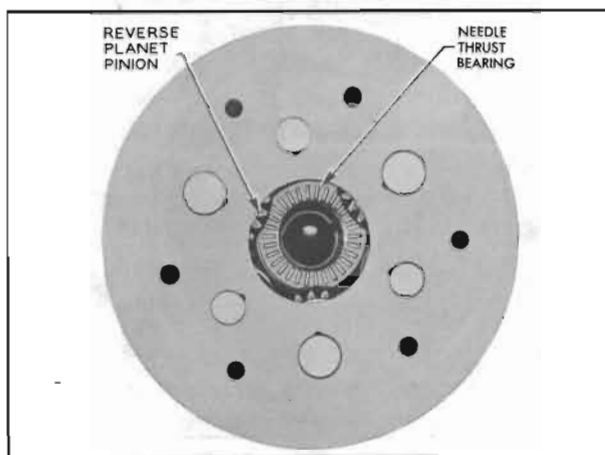

Figure 5-102—Reaction Gear Thrust Washer in Place
10. If end play is not within the specified limits, remove reaction shaft flange, clutch assembly, and the thrust washer located between the reaction gear and the reverse sun gear. See Figure 5-102.